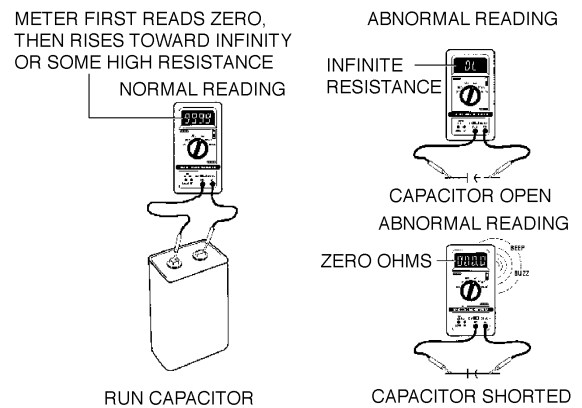

FIGURE 56 — CAPACITOR TEST
4. Set up the volt-ohmmeter to measure resistance by connecting the meter across the capacitor terminals. See Figure 56.